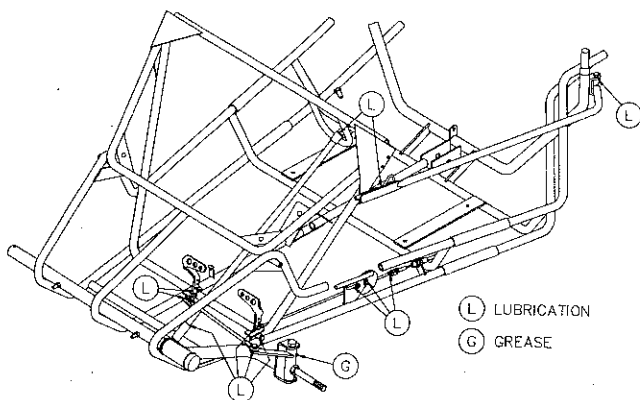

FIGURE 4
1. Lubricate the following items with several drops of oil as shown in Figure 4; steering bearing points, tie rod ends, brake rod pivot points, pedal pivot points, door hinges, door latch, and parking brake handle. Use the same grade of lubricating oil used in the engine crankcase.